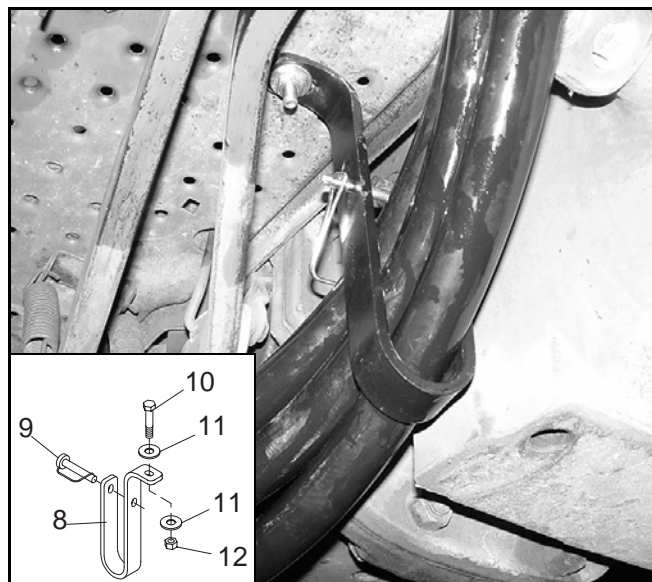

Figure 15 Hose Hanger Installed
1. Attach 90-degree hose ends to control valve IN, OUT, and PBY adapters as shown in Figure 15.